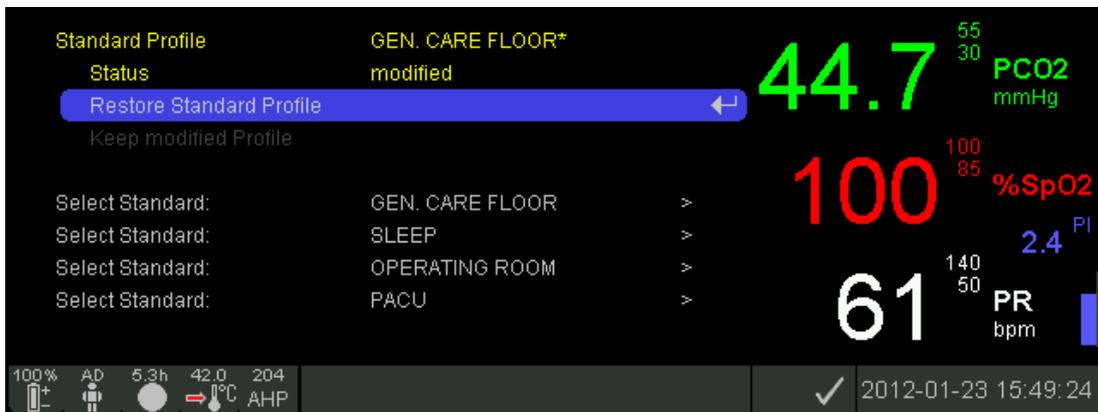

Figure 9 Sub-menu ‘Profiles’
- to the sub menu 'Profiles' (Figure 9) if the settings from LAST use and those of the selected 'Standard Profile' are different when the SDM is configured in 'Institutional Mode' (4.7.3).
In the menu of the SDM, the operator can configure all menu parameters (4.7.4.2) during subsequent use on an individual basis at the bed-side. Thereby, operator access to certain menu parameters can be disabled or restricted by the Responsible Organization (4.7.4.1) or, depending on the specific context, by the SDM itself. If the SDM is used in 'Institutional Mode' (4.7.3), the operator can restore the selected 'Standard Profile' or select/activate one of the other profiles stored in the SDM in the sub menu 'Profiles' (Figure 9, Table 50) at any time. This sub-menu is easily accessible via a shortcut in the Quick Access Menu (4.2.5.3, Figure 7) if the sensor is in the Docking Station. Furthermore, if at power-up of the SDM the settings from previous use are different from those of the 'Standard Profile', the sub-menu 'Profiles' is automatically activated, thereby offering the option to restore the 'Standard Profile', to select another 'Profile', or to keep the modified profile.
Note: In 'Basic Mode' no 'SDM Profiles' can be stored on the SDM. In 'Basic Mode' the sub-menu 'Profiles' (Figure 9, Table 50), consequently, is not accessible and no profile name will display on the 'Ready for use/Calibration' screens (4.2.4) and in the main menu (Table 36).
In the sub-menu ‘Profiles’ (Figure 9, Table 50) – which is easily accessible via a short-cut in the Quick Access Menu if the sensor is in the ‘Docking Station’ (4.2.5.3, Figure 7) - the operator can at any time restore the ‘Standard Profile’ or select/activate therein one of the other ‘SDM Profiles’ stored on the SDM as ‘Standard Profile’.
**Note:** On the SDM, the name of the selected ‘Standard Profile’ is displayed on the ‘Ready for use/Calibration’ screen (4.2.4), in the main menu (Table 36), and in the sub-menu ‘Profiles’ (Figure 9, Table 50). An asterisk appears behind the profile name if at least one of the SDM’s
current settings differs from its setting in the selected 'Standard Profile' (an example is shown in Figure 9).